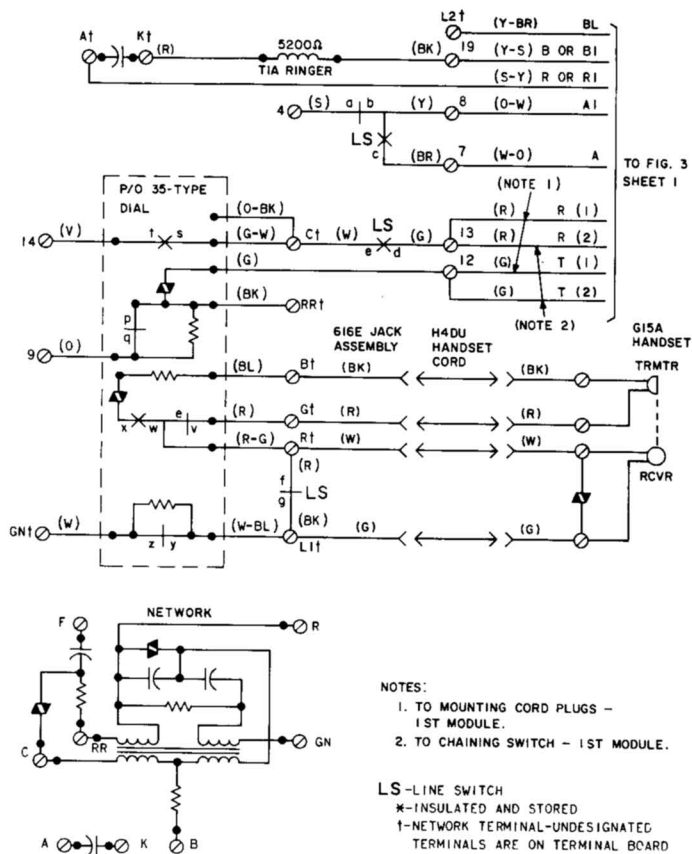

Fig. 1—2630DAM and 2631DAM Telephone Set, Connections
1.01 This section contains information for the 2630DA (MD) or 2630DAM (18-button) and 2631DA (MD) or 2631DAM (30-button) (Fig. 1 and 2) telephone sets. These sets may be equipped with different modular key arrangements. The telephone sets will accommodate 635-type or 658A keys, 76A lamp sockets, and/or a 679A (MD) internal transmitter.
- Revise Fig. 1, 2, 3, and 4 to update information.